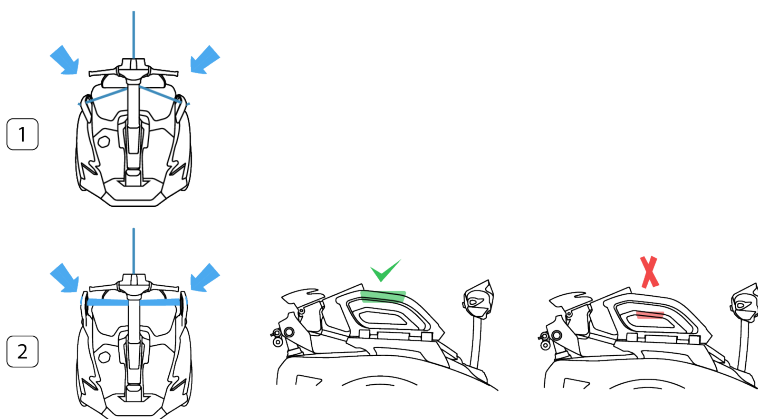

Figure 8.1 - Lifting GENNY: correct attachment of the straps to the side handles
5. Properly fasten the straps to the handles and/or anchorage points provided by the manufacturer and shown in Figure 8.1